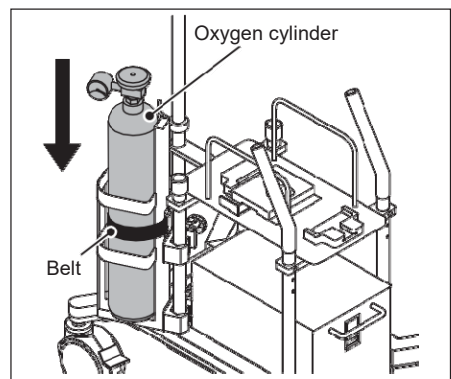

Figure 1-78
2. **Place the oxygen cylinder into the cylinder holder. (Figure 1-78)**